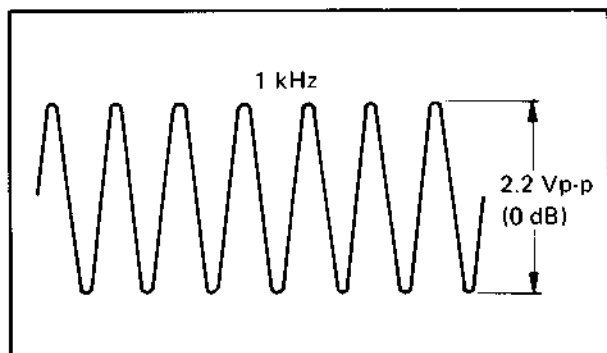

Fig. 6-42 Playback level
3. Adjust R117 (P. B. LEVEL) so that the level of TP-19 is 2.2 Vp-p (0 dB) as shown in Fig. 6-42.